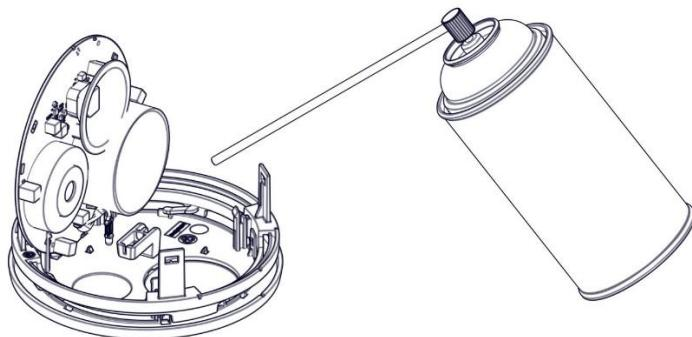

Figure 16
5. Use an Air Duster to clean debris, dust, and dirt that accumulates mostly around the smoke chamber (*see Figure 16*).